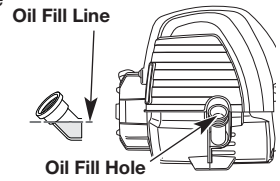

Fig. 36
5. Check the oil level. Oil should be just to the bottom of the threads of the oil fill hole (Fig. 36).
6. If the level is low, add a small amount of oil to the oil fill hole and recheck (Fig. 36). Repeat this procedure until the oil level reaches the bottom of the threads in the oil fill hole.
NOTE: Use the bottle and spout saved from initial use to measure the correct amount of oil. Check the level (Fig. 36). If the level is low, add a small amount of oil and recheck. Do not overfill (Fig. 36).